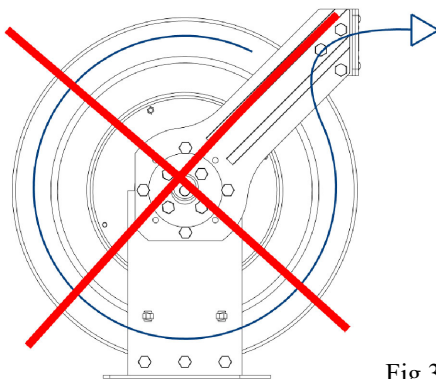

Fig 3
**Note: Incorrect hose orientation pictured in Fig 3 below**